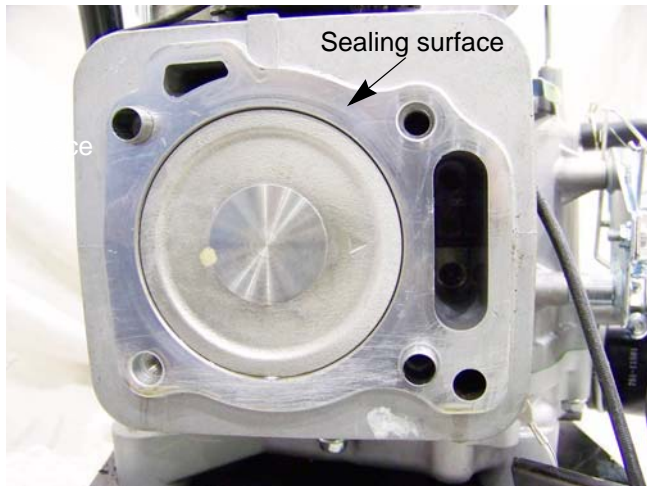

Figure 9.6
15. Carefully clean all sealing surfaces of all gasket residue. Do not scratch the sealing surfaces. See Figure 9.6.